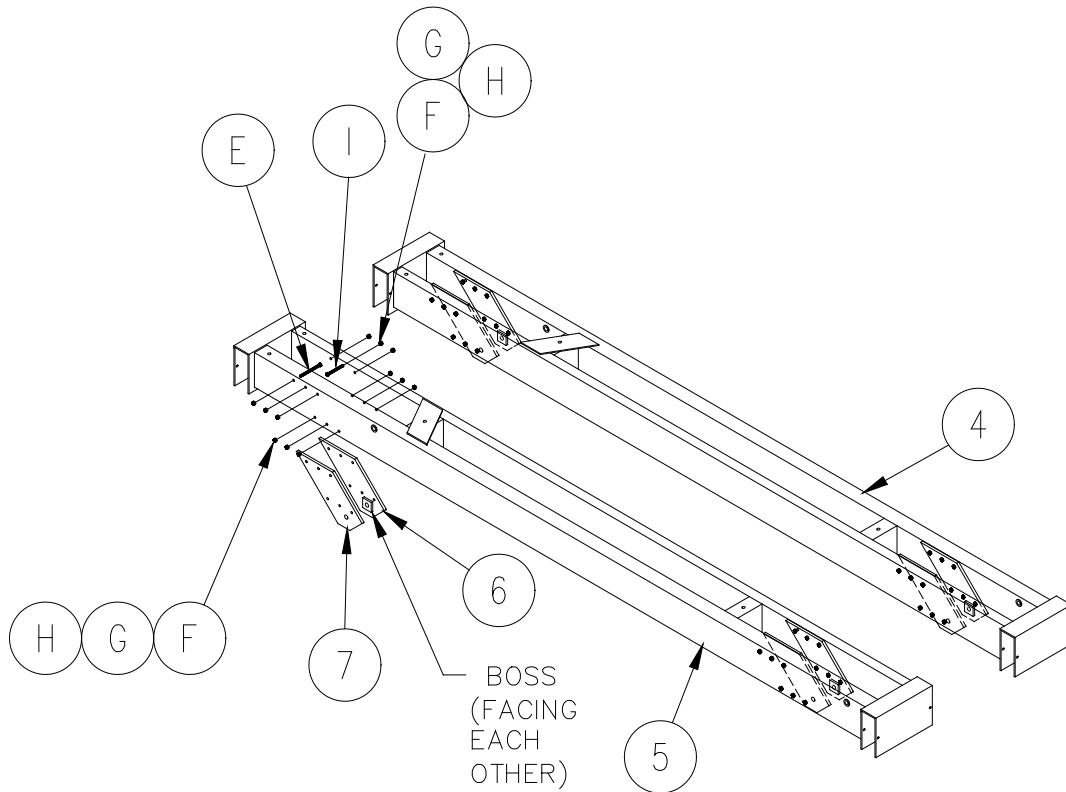

Figure 3-2.
1. Refer to Figure 3-2. Install the left (6) and right (7) cylinder support plates onto both ends of the right hand main frame (5). Install cylinder support plates so that the welded bosses on the support plates are facing each other.
2. Secure the cylinder support plates with hardware E, F, G, H, & I. Use fastener (E) in the 3" wide frame tube. Use fastener (I) in the 2" wide tube frame. Install bolts so that the nuts are on the outside of frame.
3. Repeat steps 1 and 2 above to assemble left hand main frame (4).